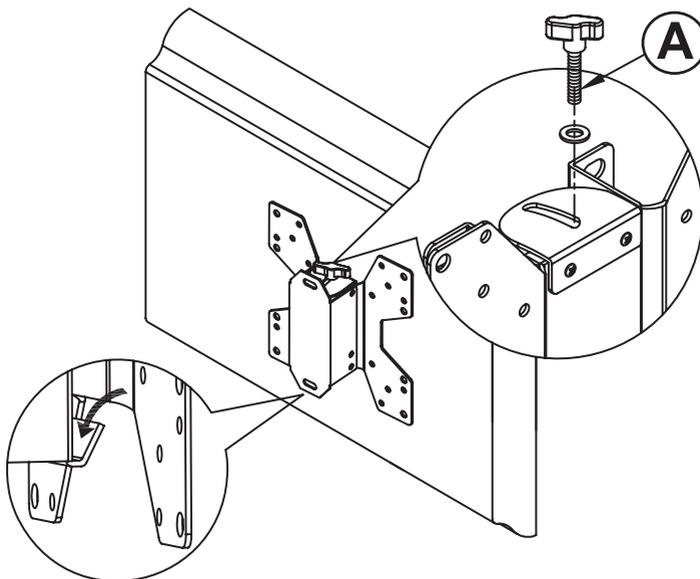

Figure 6 - Attach TV Assembly to Wall Plate
Hang the pre-assembled TV unit on the Wall Plate and secure with the screw handle (A). See Figure 6.